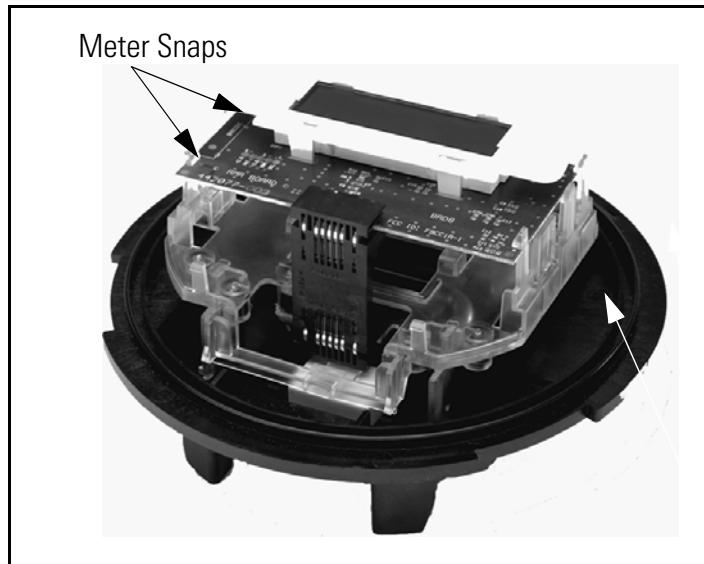

Figure 2.4 Removing the Register Module
- 5 Remove the register module, one side at a time, by pulling gently outward on the meter frame snaps (see Figure 2.4) while lifting the module up.